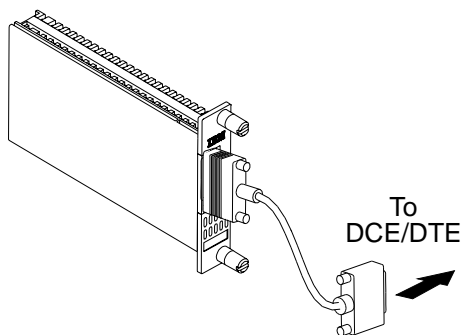
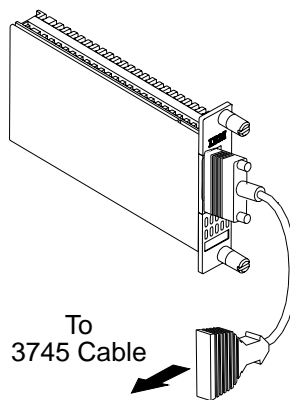

Figure 8-16. Cable Connector Type 3746-900
Figure 8-17. Cable Connector Type 3745
6. ____ Determine the cable connector type plugged on the ARCs (see Figure 8-16 and Figure 8-17).